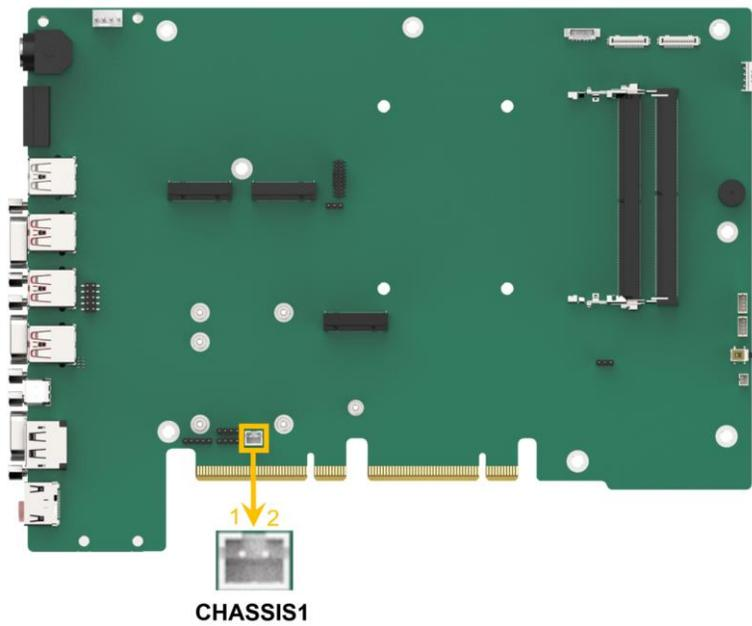

Figure 4-19: Chassis Intrusion Connector Location
- CN Location:** See **Figure 4-19**